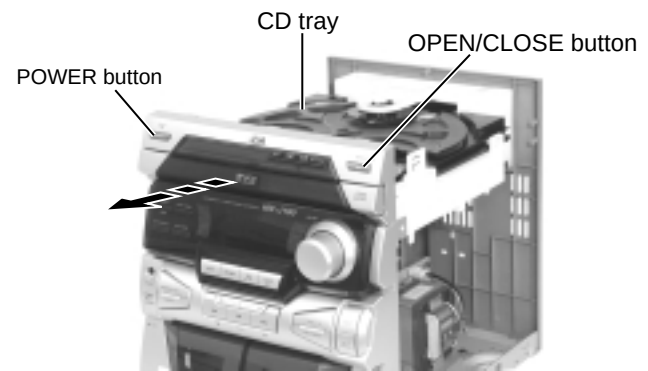

Fig.4
■ Removing the CD Tray fitting (See Fig. 4 to 6)